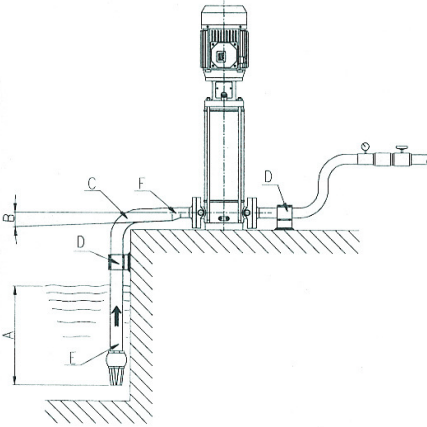
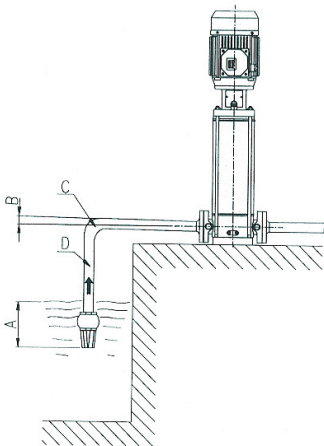

Fig.1
Fig..2
11.6 Warnings for correct Operation of CV/ECV Motor-Driven Pumps (Fig.1-Fig.2)